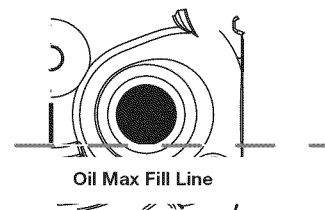
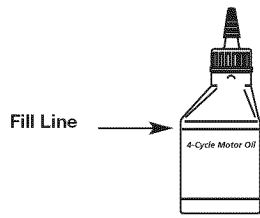

Fig. 19
Fig. 23
5. Look into the oil fill hole; use a flashlight if needed. The oil should be just touching the inner most thread (Fig. 19).
6. If the oil level is not touching the inner most thread on the oil fill hole, add a small amount of oil to the oil fill hole and recheck (Fig. 19). Repeat this procedure until the oil level reaches the innermost thread on the oil fill hole.
NOTE: Use the bottle and spout saved from initial use to measure the correct amount of oil. The top of the label on the bottle measures approximately 3.04 fl.oz. (90 ml) (Fig. 23). Check the level. See Checking the Oil Level. If the level is low, add a small amount of oil and recheck. Do not overfill (Fig. 19).